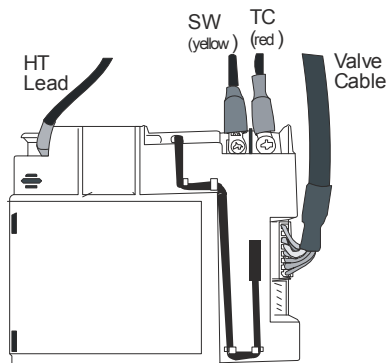

Figure 54
2. Pull out the four cables through the heat shield and connect them as shown in **Figure 54**.